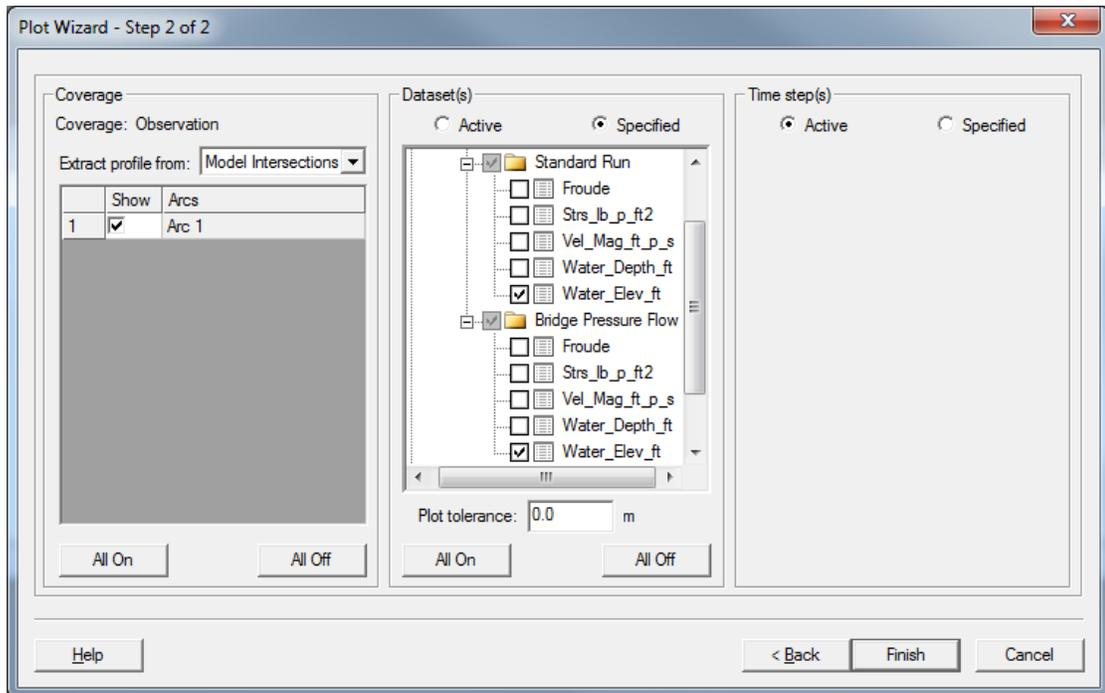

Figure 7 Plot Wizard Step 2 of 2
4. Check the boxes next to the “Water_Elev_ft” dataset under both the “Standard Run” folder and under the “Bridge Pressure Flow” folder as shown in Figure 7.